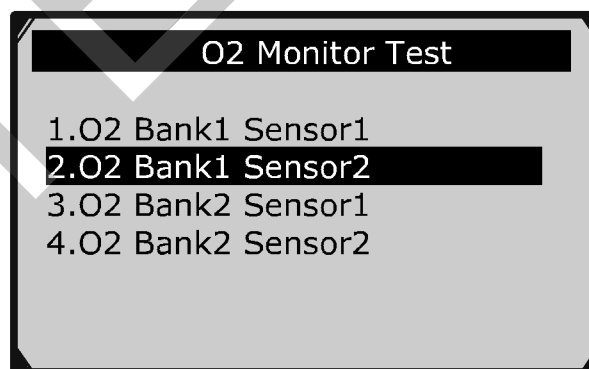

Figure 6.23
- 3) Use the **UP/DOWN** scroll button to select O2 sensor from **O2 Monitor Test** menu and press **OK** button. (Figure 6.23)